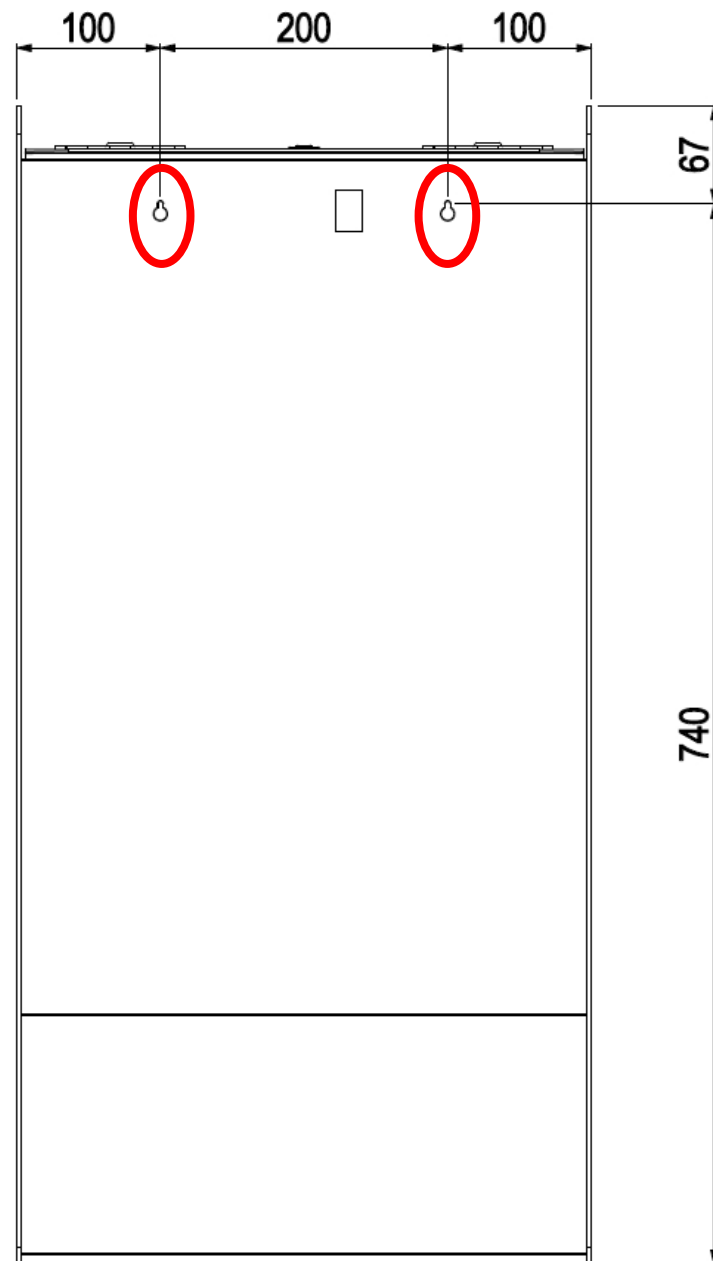

Fig. 7
5. Remove the two hole caps on the back of Dual Coin PRO and indicated with a circle in the Figure 7 below.